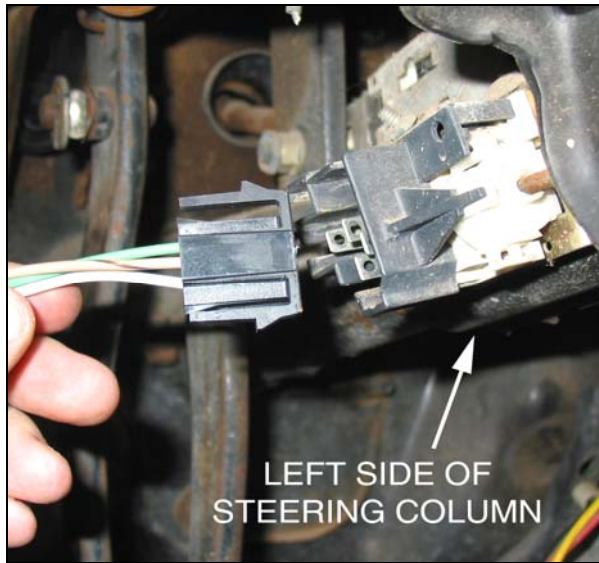

Figure 7.4.1 *Dimmer Switch*
- 7.4.1** The DIMMER SWITCH wires come pre-terminated with a connector installed. Slide the connector onto the DIMMER SWITCH, located on the left side of the column, to make your connection. **See Figure 7.4.1**